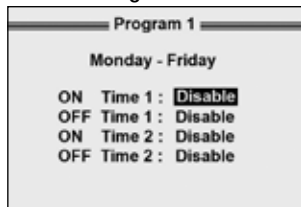
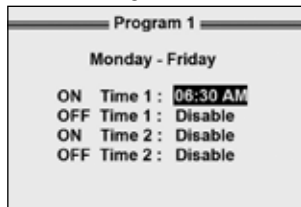

Figure 17.
Figure 18.
- d) The default setting is Disabled for all the programs (Figure 17). Press ⏻ button to enable the setting for ON/OFF time. The LCD will show the start time of the first turning on event of the program (Figure 18).